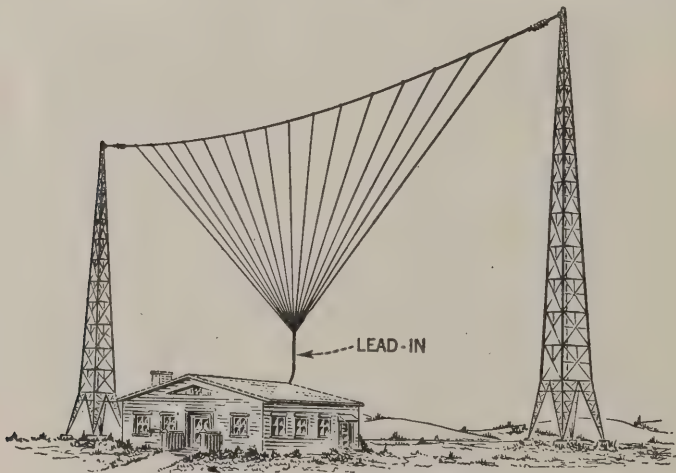

FIG. 44.—The vertical fan-type antenna.
(4) *Fan type.* The harp or fan antenna shown in Figure 44 consists of a fan of copper or silicon bronze wires erected vertically in the same plane and supported at their free end by a wire attached to supporting towers. The free end of each vertical conductor may or may not be soldered or electrically connected to the supporting wire. All wires converge at the lower end and are attached to a lead-in which passes through a large insulator where it enters the transmitter building. Although this vertical type antenna is an efficient radiator of electromagnetic waves its construction prohibits its general use.